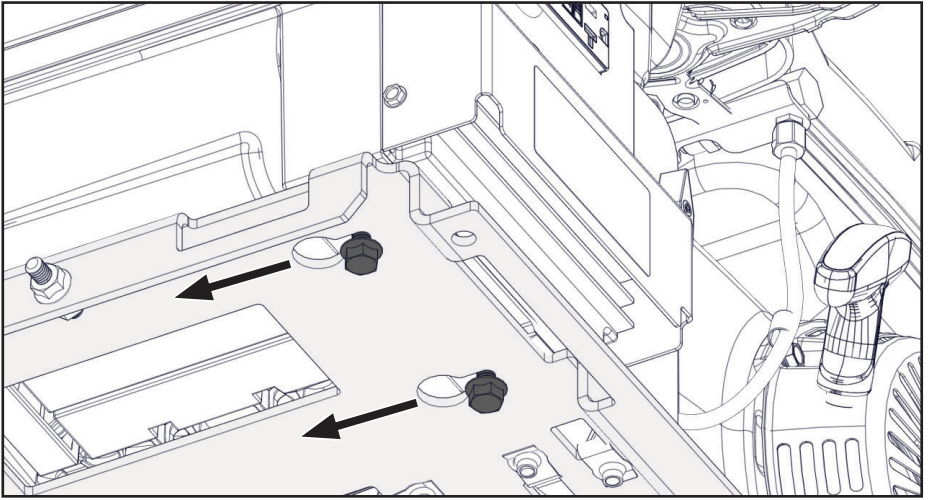

Figure 84 — Loosen front generator fasteners
- Loosen the front generator fasteners and slide the generator to the rear until the fasteners clear the keyway (Figure 84).